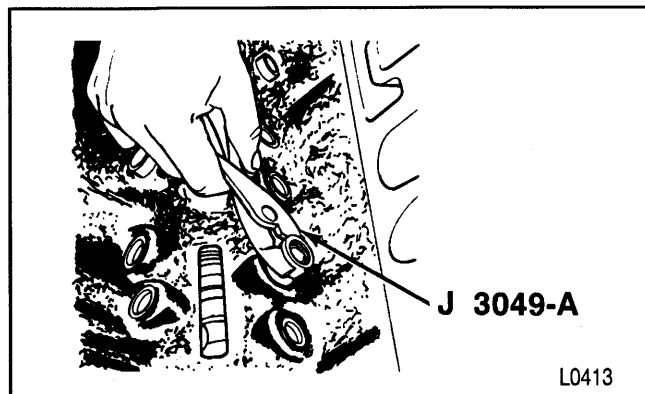
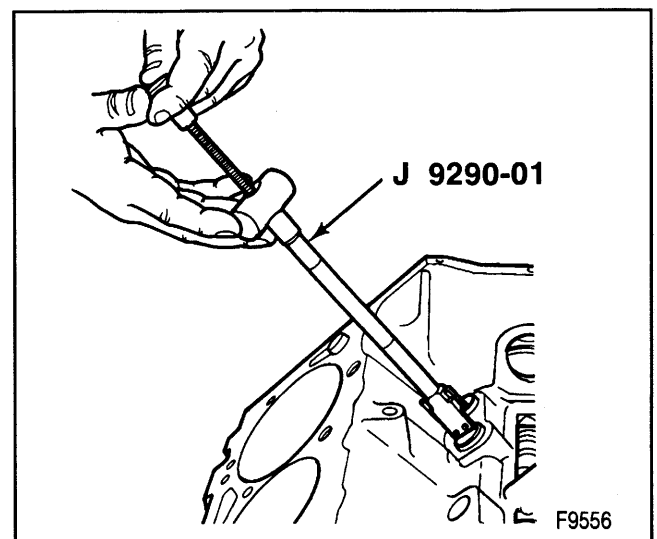

Figure 11—Removing the Valve Lifter
Figure 12—Removing the Valve Lifter
Remove or Disconnect (Figures 11 and 12)
- A stuck hydraulic lifter can be removed using J 3049-A (figure 11) or J 9290-01 (figure 12).